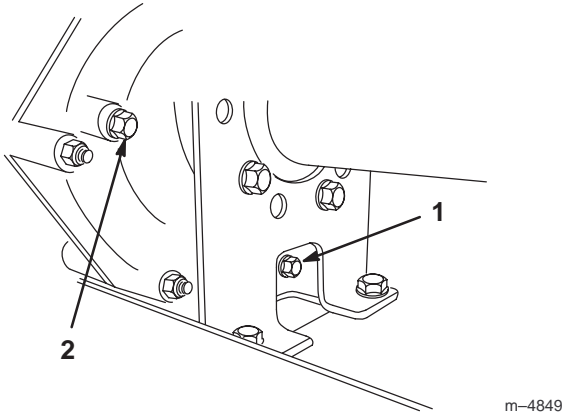
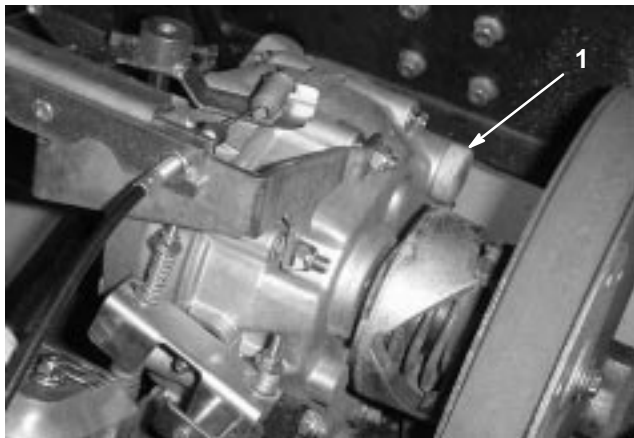

Figure 29
Figure 30
2. Remove the drain plug from the right side of the reservoir (Fig. 29) and let the fluid flow into a drain pan. Install and tighten the plug when the fluid stops draining.
3. Fill the reservoir (Fig. 30) with approximately 1-1/2 qt. (1.4 liters) of SAE 10W30 motor oil or until the oil level is at the bottom of the level indicator hole (Fig. 29).